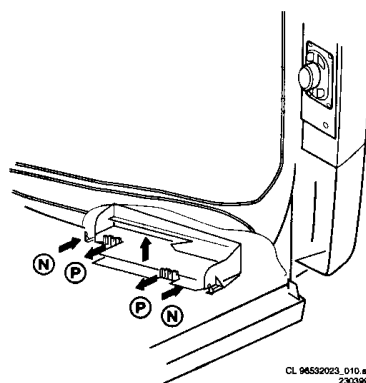

Figure 4-16
1. Release the two fixation clamps (N) by forcing them up (see figure 4-16). At the same time the complete assy (mains unit bracket + pcb) must be pulled backwards.
3. The Mains switch/led board can be removed now by releasing the clamps (P) of the bracket.